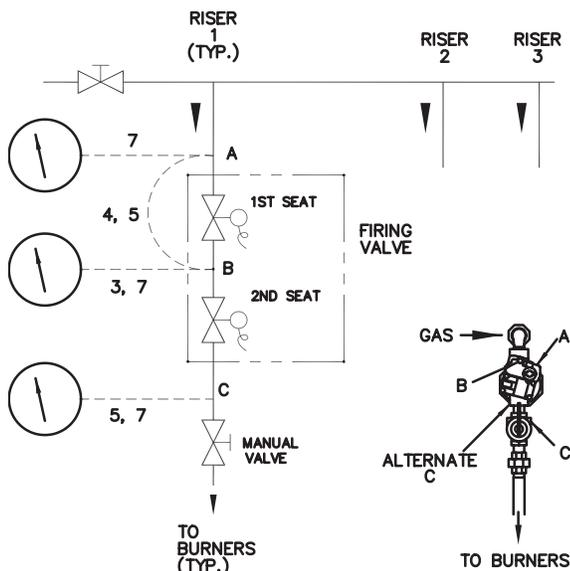

Fig. 37: Leak Test
Refer to Fig. 37. The numbers on the diagram refer to the steps below:
6. Perform leakage test on gas valves. (See Fig. 37.)